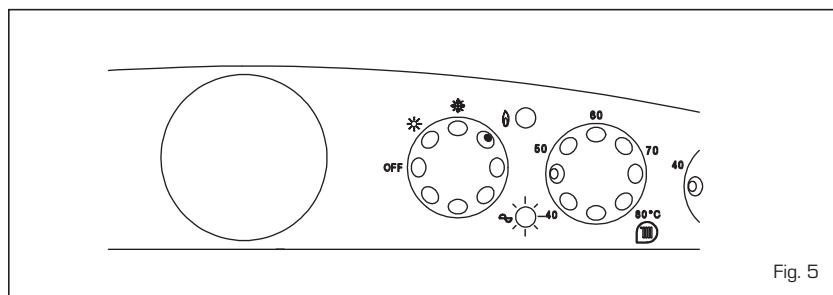

Fig. 5
- Other faults (fig. 5)
If the green bicolour detector is flashing (fig. 5) the boiler is not functioning. To restore functioning reinstate the thermostat button.